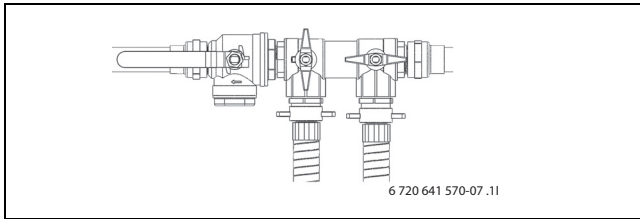

Fig. 30 Filling units in pressure increase position
- ▶ The circuit must be pressurized when venting is complete. Turn the valves on the filling unit to pressure increase position and pressurize the circuit to 2.5 to 3 bar (→ Figure 30). Make sure the expansion vessel has an air pocket corresponding to approximately 1/3 of the total volume, by using the de-airing valve on top of the expansion vessel